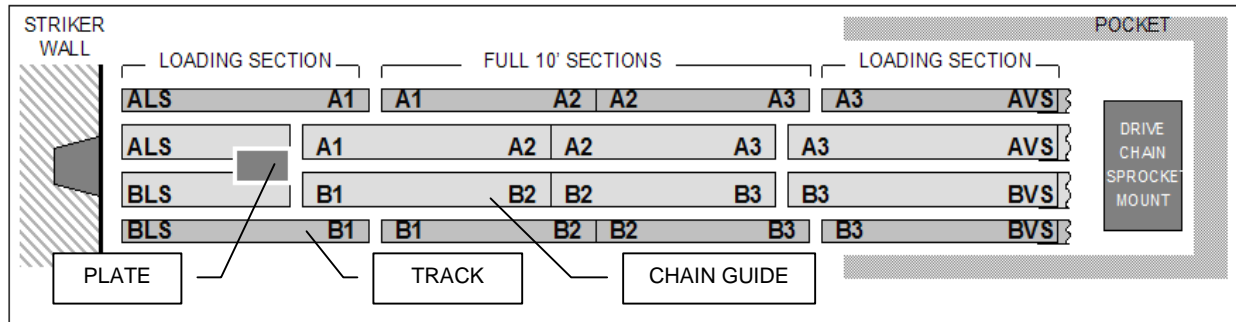

Figure 3a. Chain Guide and Track Arrangement (TOP VIEW)
Locate and unpack the chain guide. The chain guide is provided in some combination of the following types: Loading Sections (standard on all doors), Full 10' Sections (quantities vary), and Variable Sections (length and quantity vary). Loading Sections and Variable Sections will be labeled with a three-letter code. The first letter of each code indicates which side the section should be installed. (When facing the pocket, the left-hand side is the "A" side.) The last (2) letters indicate whether it is a load section (**LS**) or variable section (**VS**). Variable Sections may need to be cut to size in the field. A "cut" end should never be used in a joint with another section of chain guide. (I.e. The Variable Section's "cut" end should face the back wall of the pocket). The ends of the Full 10' Sections are labeled with a 2-3 digit code. The first digit indicates the side on which they should be installed. The following digits are the joint number. (A1 butts against the "A"-side load section, **A2** butts to **A2**, **A3** to **A3**, etc.) This is important because the predrilled holes of the track and chain guide may not align if they are not installed in the correct positions. It may be helpful to simulate the layout of chain guide on the floor prior to installation. See **Figure 3a**.
Locate and unpack the track. The Load and Variable Sections have been labeled with the same (3) digit code as used in for the chain guide sections. The ends of the Full Sections have been labeled similarly to the chain guide ends. It may be helpful to simulate the layout of track on the floor. See **Figure 3a**. The door sections will later be loaded by removing both sides of the Loading Section, but the full Loading Section must first be completely installed to ensure the spacing and length of the entire chain guide assembly.